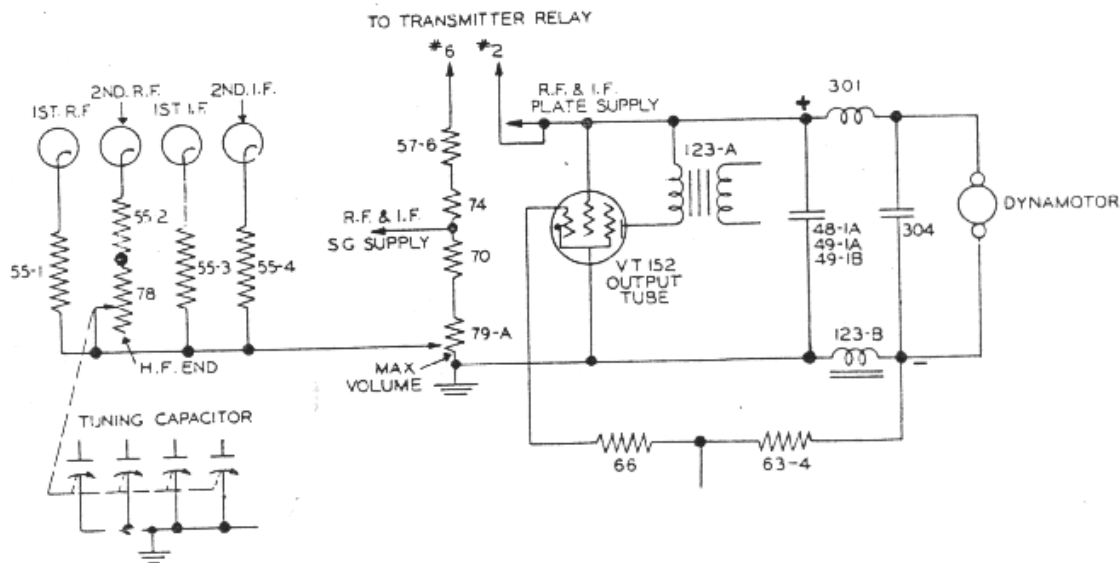

Figure 4-4 Load Compensator and Bleeder Circuit, Simplified Diagram
across the dynamotor filter reactor; thus, any tendency towards a decreasing load on the dynamotor results in a slight decrease in the bias of the output tube with a compensating increase in the load current. (See Figure 4-4.) Tube JAN-6K6 provides more power than necessary to operate a number of headsets in parallel.
(2) The characteristic increase of internal receiver noise, when tuning from the low to the high frequency end of a band, has been corrected by means of the variable resistor 78. The function of this potentiometer can be more clearly understood by reference to Figure 4-4. Here the noise compensator resistor 78 is mechanically connected to the shaft of the ganged tuning capacitor with an electrical connection to give minimum resistance at the low frequency end of the band. The cathode return lead of the second r-f amplifier tube connects to the noise compensator resistor 78. The gain of this stage is thereby decreased proportionally as the r-f tuned circuit impedance increases (when tuning toward the higher frequency end of the frequency band). This arrangement tends to keep the noise level and receiver sensitivity essentially constant over the tuning ranges.